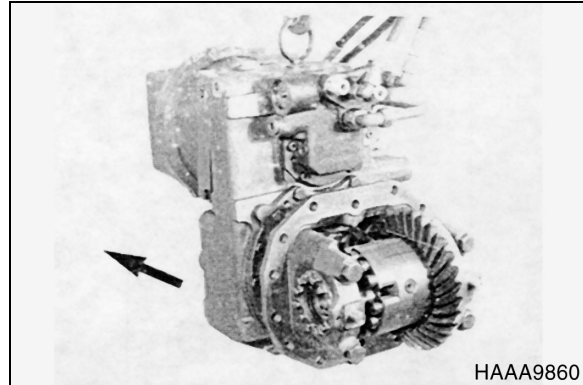

Figure 141
NOTE: Pay attention to the installation position of the crown wheel, see Figure 141.
12. Figure 141 shows the installation position of the crown wheel (differential) in the arrangement as rear axle.